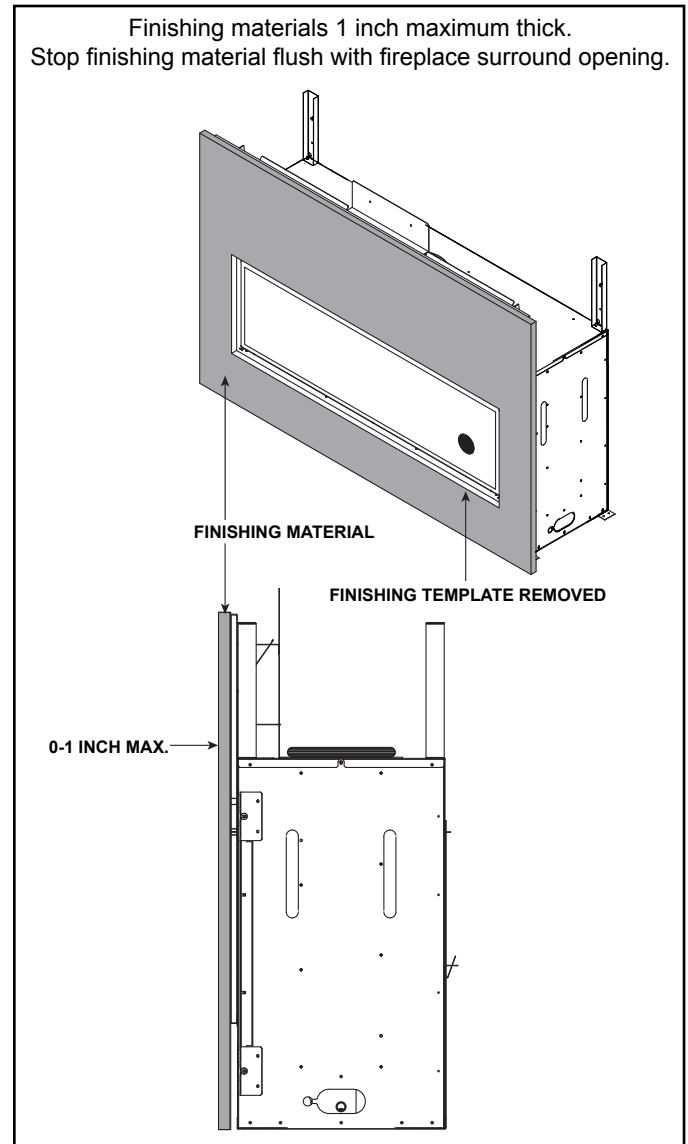

Figure 1. Inside Fit Decorative Front
2. Verify finishing material has been installed correctly before installing the CFT front. The eight rectangular holes on the bottom access panel **MUST** be covered. The maximum finishing material thickness is 4 inches. See Figure 1.